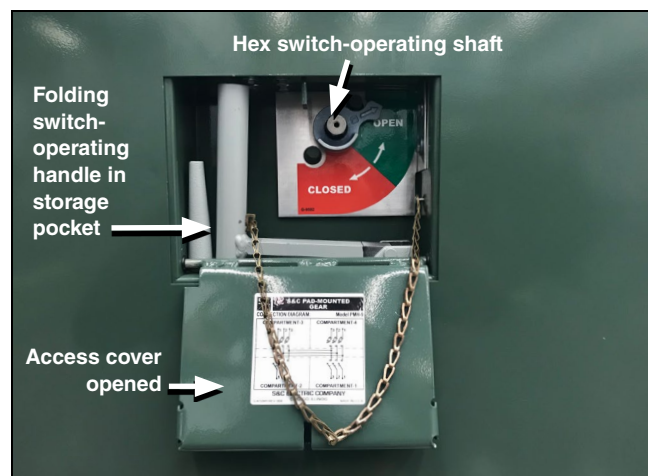
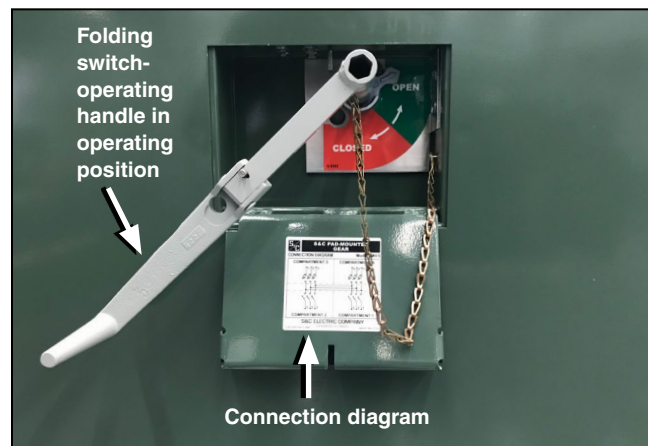

Figure 11. The access cover door is open.
Figure 12. The switch operating handle installed.
- STEP 2.** Remove the folding switch operating handle from its storage pocket behind the access cover. See Figure 11. Unfold the handle and slide it onto the hex switch operating shaft. See Figure 12.